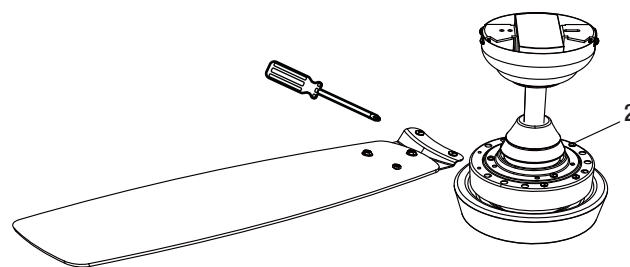

Figure 15
- Remove two blade holder screws on the top of motor and save them, position the blade holder (J) above the motor such that the holes aligned (Figure 15). Tight the pre-installed blade holder screws.